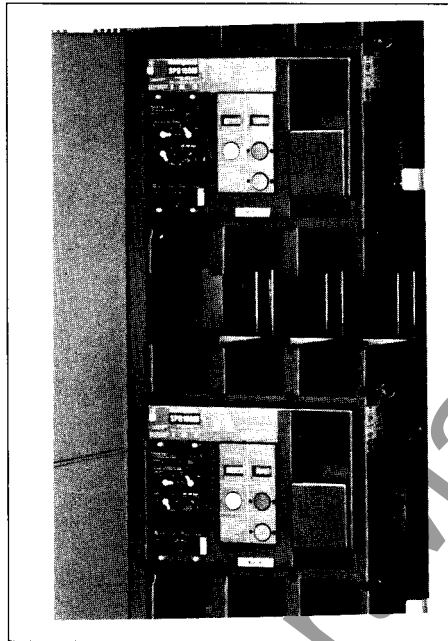

Fig. 1. Power Switching Panel
- 1) The power switching panel (Fig. 1), contains the main power contacts and transfer mechanism. The main power contacts connect and disconnect the load to and from the sources of power. The transfer operation is accomplished by the electrically driven, stored energy mechanism of the Systems Pow-R Devices.